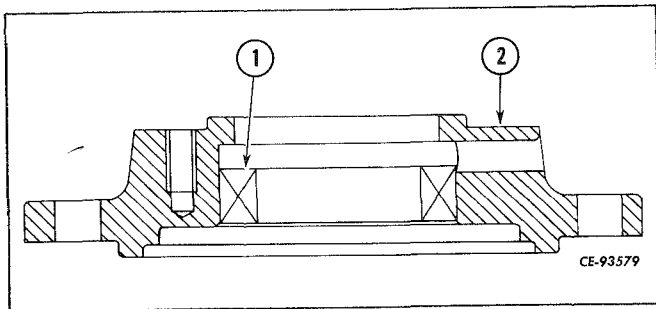

Figure 4-58
Press a new oil seal (1, Fig. 4-58) into the housing end output shaft cap (2) with the lip of the seal toward the bearing in the housing. Press the seal to the depth shown.